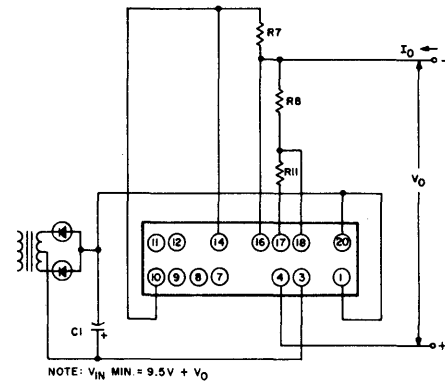

Fig. 27 Power hybrid current regulator circuit
- Nominal values of R8 and R11 1/2W film resistors (Fig. 27):